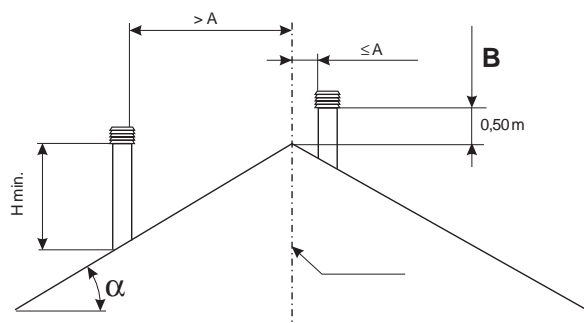

Fig. 5.2.5
• the data in the table of the UNI 10683/98 rules regarding distances and positioning of chimney tops are given in Fig. 5.2.4 (FLAT ROOF ; **B** Technical volume) and Fig. 5.2.5 (SLOPING ROOF ; **B** Above the ridge cap).